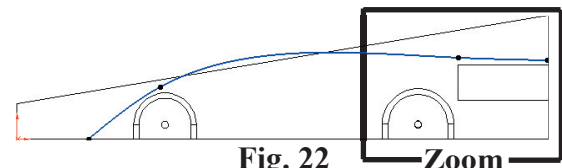

Fig. 22
Step 7. Use the **Zoom to Area**  in the View toolbar to drag a zoom window around the **rear end of the body, Fig. 22**. Click Zoom to Area  again or Escape to unselect Zoom to Area.